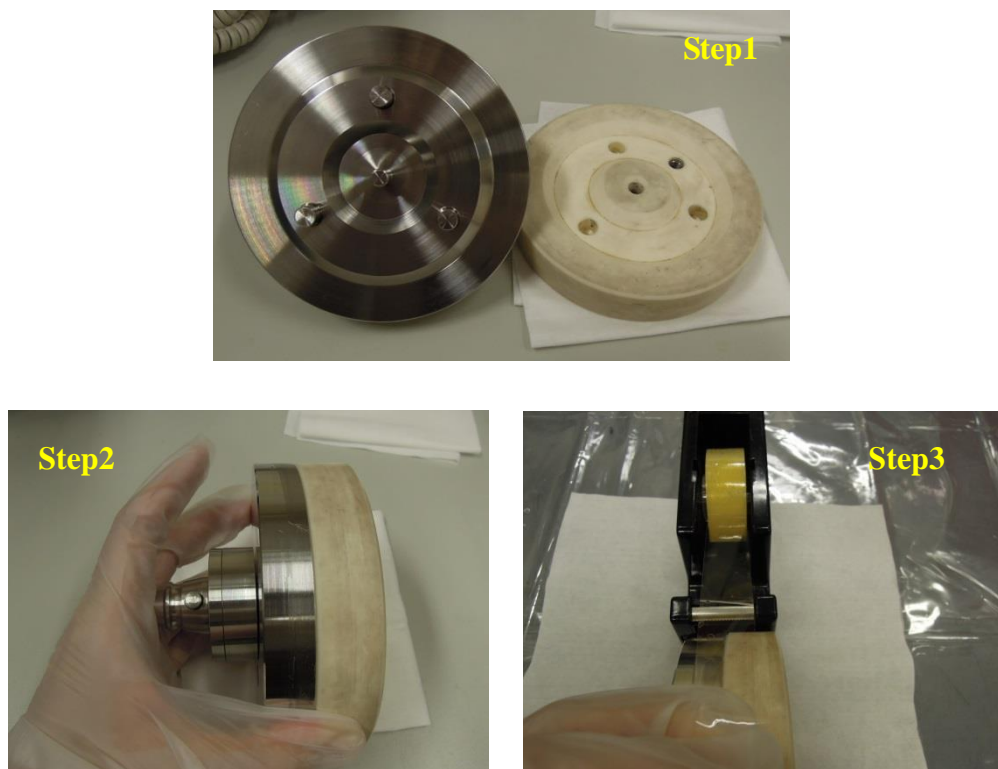

Fig. 8
- As shown in Fig. 8. The sample is bonded on the ceramic holder.